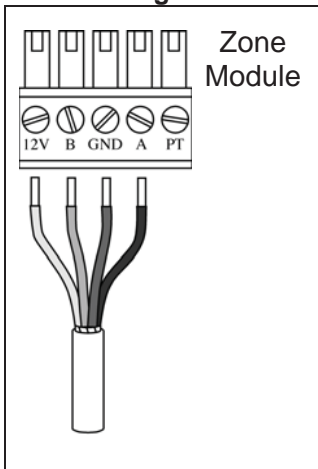

Fig. 4
- 5) **Subordinate Module's Connection at the end of the bus** – Do not connect the shield to the Zone Module Connector (Fig. 4).